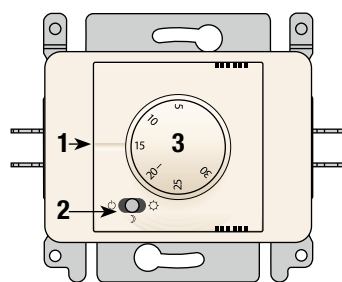

fig.3
Parts (fig.3)
- Set value: the line indicates the desired temperature (e.g. in fig. 3, the thermostat is set to 15°C).